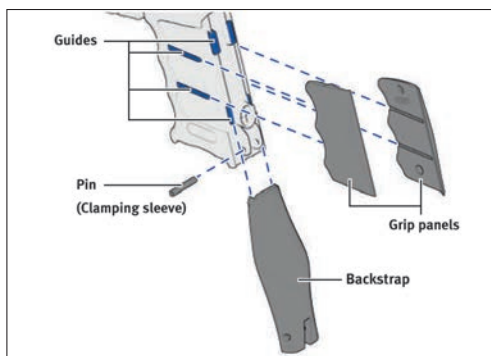
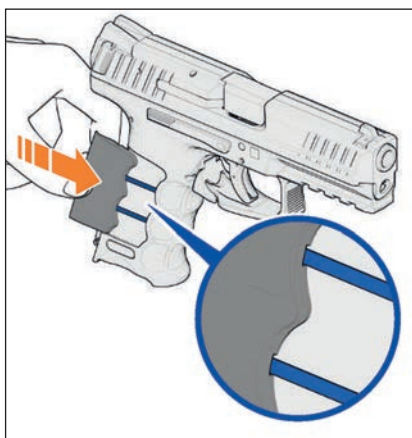

Figure 5 - Installing backstrap and grip panels
Figure 6 - Push the grip panels forward into the guide rails on the frame
1. Using a 2.8 mm (or 7/64") pin punch, remove the pin holding the backstrap in position. Choose the combination of backstrap and grip panels that provide the most comfortable fit for the operator (see Figure 5).
2. Install the two grooves on the inside of each grip panel onto the corresponding tongues located on the outside of the frame (Figure 5 and Figure 6) and push the panels forward until they seat flush into the frame.